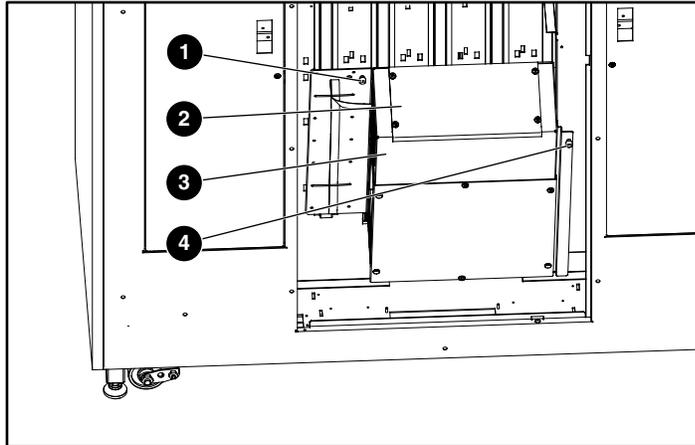

Figure 2: Opening the electronics bay
4. Tilt the electronics bay out of the cabinet (see Figure 2).